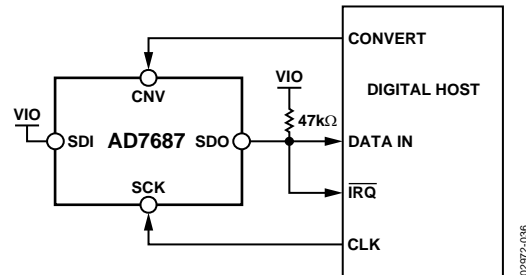
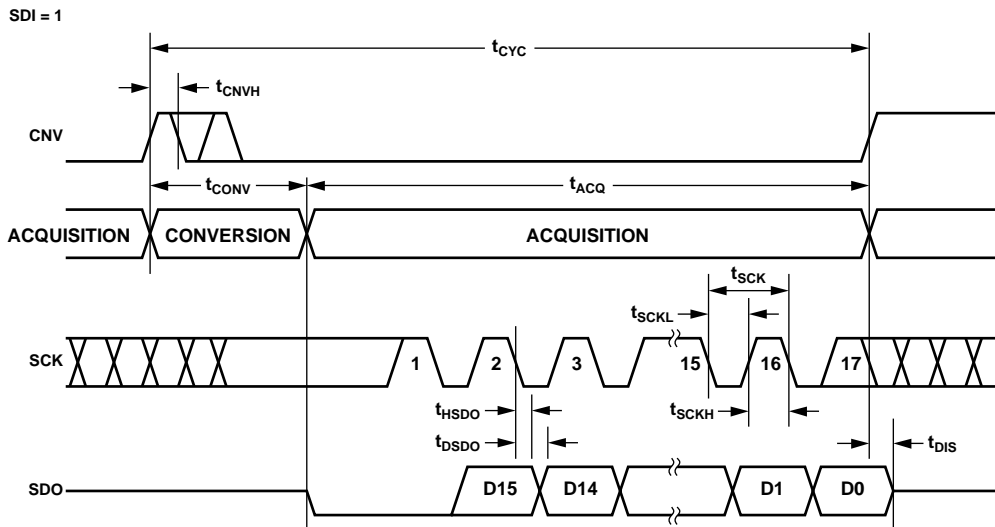
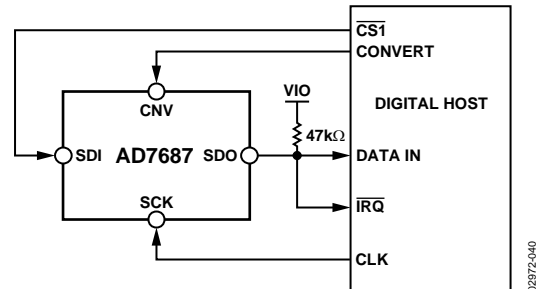
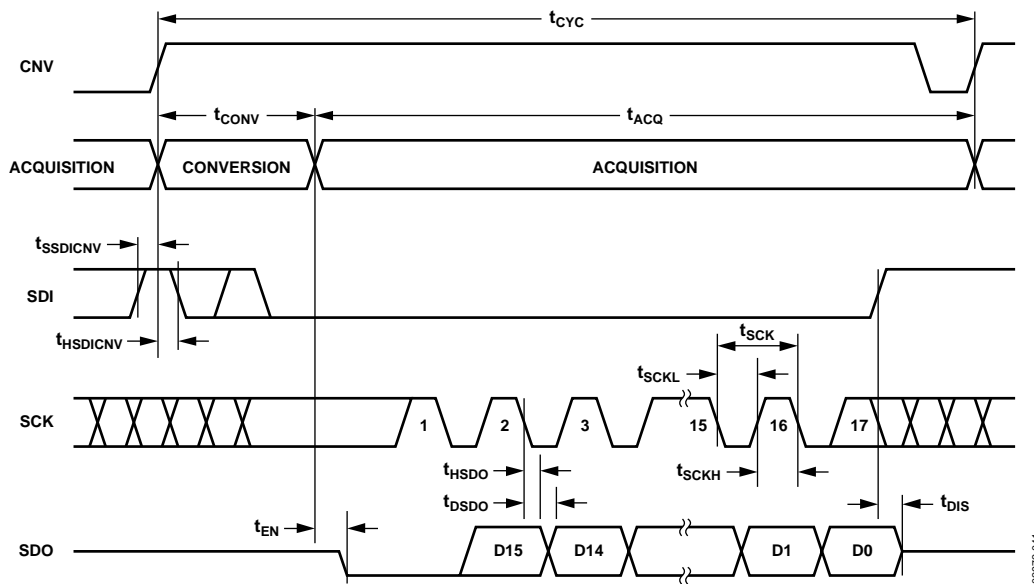

Figure 36. $\overline{\text{CS}}$ Mode, 3-Wire with BUSY Indicator Connection Diagram (SDI High)
Figure 37. $\overline{\text{CS}}$ Mode, 3-Wire with BUSY Indicator Serial Interface Timing (SDI High)
Figure 40. $\overline{\text{CS}}$ Mode, 4-Wire with BUSY Indicator Connection Diagram
Figure 41. $\overline{\text{CS}}$ Mode, 4-Wire with BUSY Indicator Serial Interface Timing
- In the \overline{CS} mode if \overline{CNV} or SDI is low when the ADC conversion ends (see Figure 37 and Figure 41).
Figure 36 shows the connection diagram and Figure 37 gives the corresponding timing.
Figure 40 shows the connection diagram and Figure 41 gives the corresponding timing.